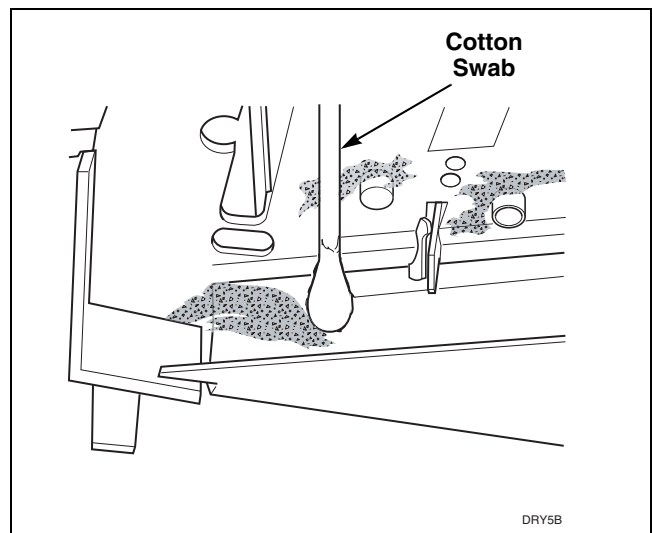

Figure 82
- Check coin path in coin drop for lint and residue. If lint or light residues are present, use a cotton swab to remove. If heavy residue is present, it may be necessary to first scrape off excessive residue and then use a cotton swab dipped in water or isopropyl alcohol (rubbing alcohol) to remove remainder of residue. Refer to *Refer to Figure 82*.